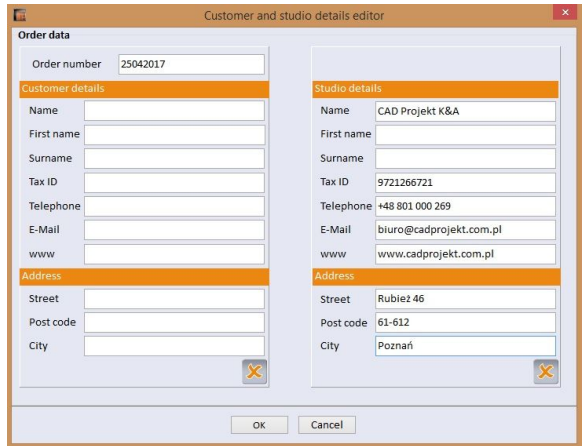

Fig. 29 - Customer and studio data editor
- **'Customer and studio data editor'** - opens the **'Edit data'** window, in which you can add or change the order data (Fig. 29) (it can also be filled out in the second step of the **'Basic Options Wizard'** – see pages 10, 11 and 12).
- **'Load wardrobe'** - opens the **'Select wardrobe'** window, similar in appearance to the **'Save wardrobe'** dialog box (Figure 29 on previous page), where you can select and open a previously saved wardrobe design. Model previews appearing on the right side of the window after clicking the name of the saved model can be helpful in making the selection.